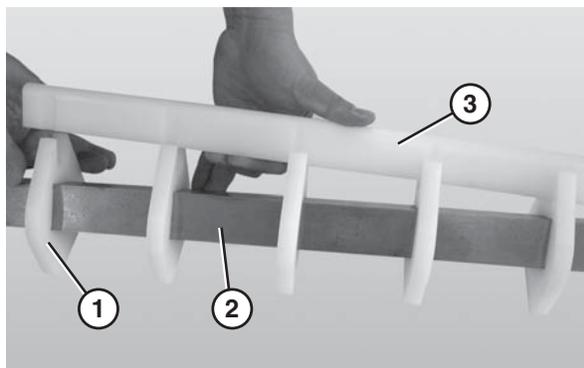

Figure 67
- Slide the nose bar pucks (Figure 67, item 1) onto the nose bar drive post (Figure 67, item 2).
- Attach the nose bar wear strip (Figure 67, item 3).